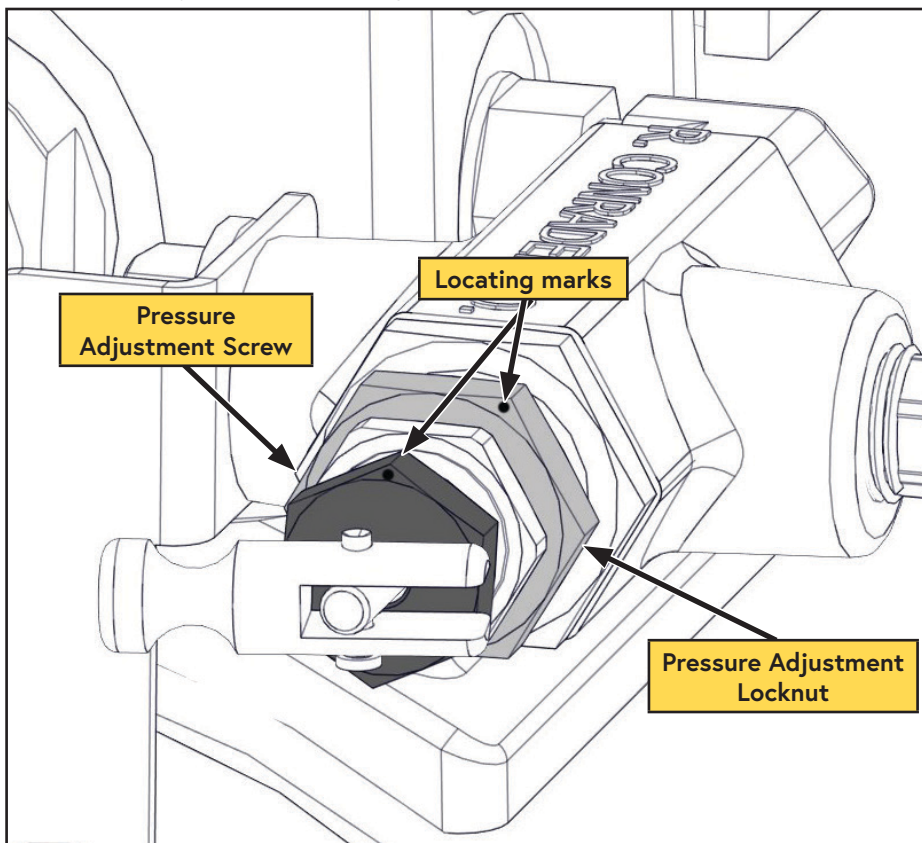

Figure 46 — Adjusting the Unloader Valve
- ☐ Make a locating mark on both the "Pressure Adjustment Locknut" and the "Pressure Adjustment Screw" (Figure 46).